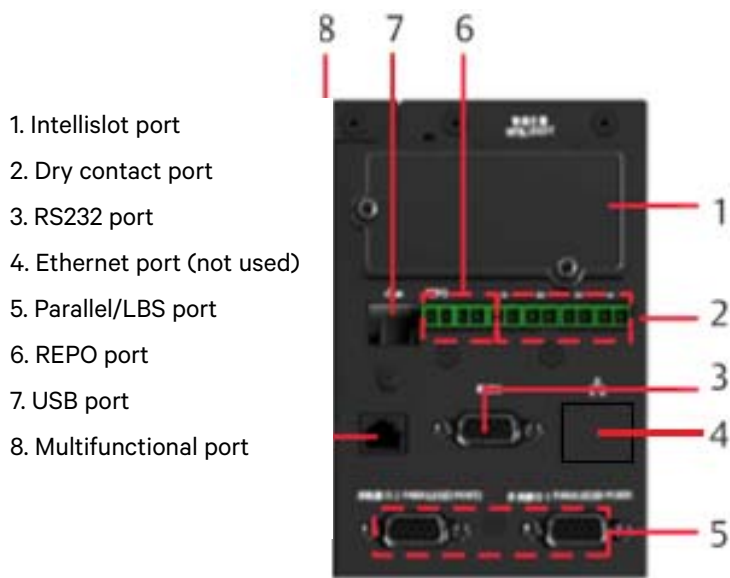
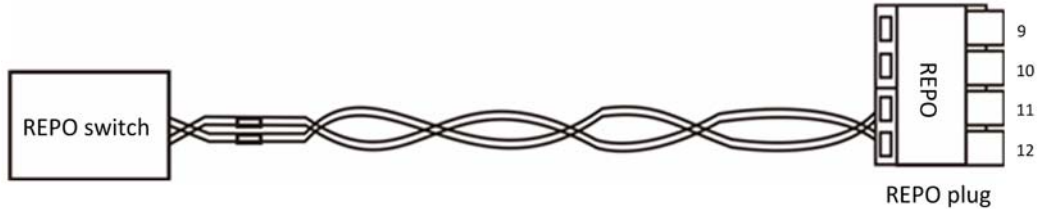

Figure 3-6 Illustration drawing of communication box ports
Figure 3-8 Connecting the REPO cable
Depending on the specific on-site needs, the UPS requires auxiliary connections to manage the battery system (including the external battery circuit breaker), communicate with a PC, provide alarm signals for external devices, enable a remote EPO and/or the bypass back feed circuit breaker signal, and for parallel communication functions. These functions are performed by the communication box in the UPS cabinet. As shown in Figure 3-6, the communication box provides the following ports:
In the event of an emergency, close the REPO switch (supplied and installed by the user) in order to shut down the rectifier and inverter, and switch the UPS off. Under normal conditions, the REPO switch cannot be used to isolate the UPS from the mains input power. If an electronically controlled circuit breaker function is installed at the UPS input, the REPO switch can be used to trip this breaker, thus cutting off the UPS mains input power. The position of the REPO switch is shown in Figure 3-6, and the REPO cable connection is shown in Figure 3-8.
Insert one end of the (DB) serial port communication cable into the DB9 serial port (see port 3 in Figure 3-6) on the rear panel of the UPS, and connect the other end to the DB9 port on the computer.
The position of the USB port is shown in Figure 3-6.
The position of this port is shown in Figure 3-6.
The position of this port is shown in Figure 3-6. The Intellislot port is used for installing optional cards, including the UNITY card, etc. The Intellislot port can be used together with other ports.